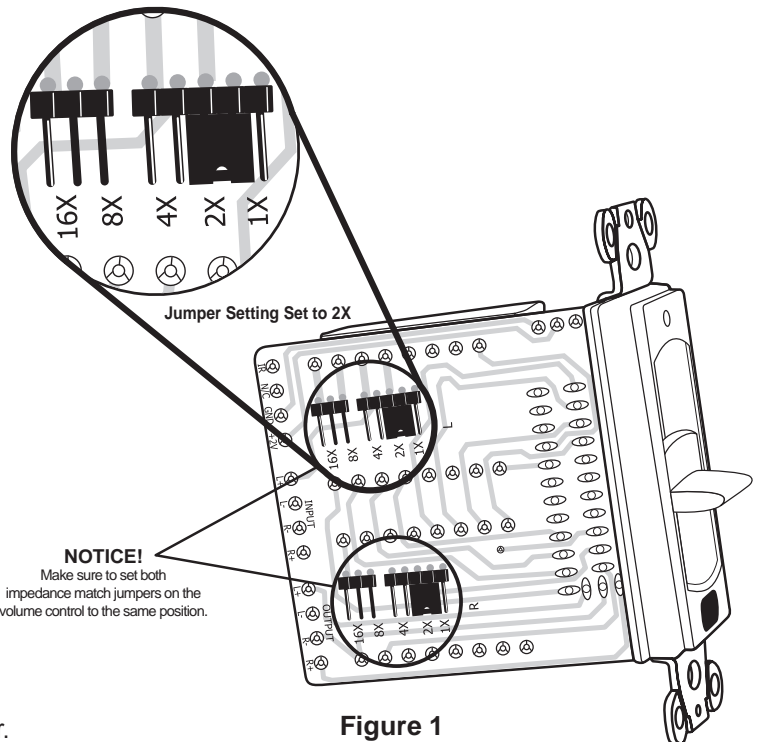

Figure 1
- 4.) Set the impedance match jumpers on all of the volume controls in the system to the same position (1X, 2X, 4X, 8X or 16X). See Figure 1.